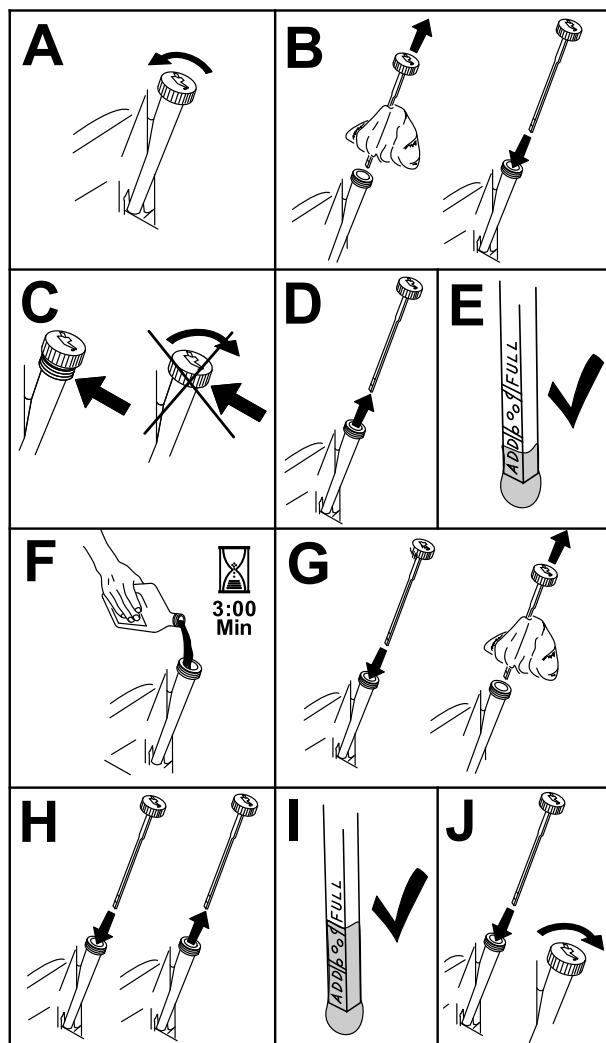

Figure 51
2. Shut off the engine, remove the key, and wait for all moving parts to stop before leaving the operating position (Figure 51).